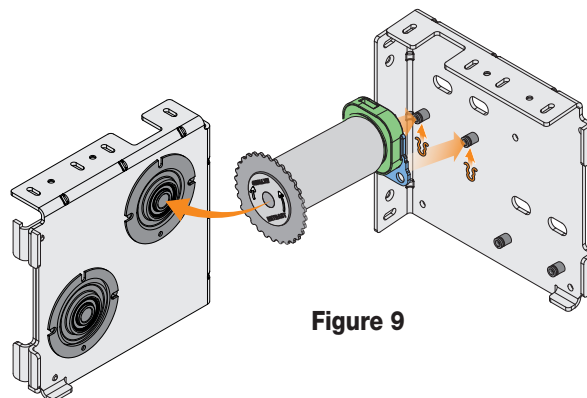

Figure 9
Section 5.5 - Final (Idler-end) Fabric/Roller Assembly (Fig. 9)
5. Installer #1 places the idler-end sliding shaft onto the idler-end bracket (Fig. 9). Lock shaft in place by placing retaining clip on shaft.